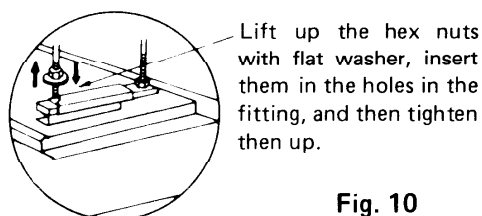

Fig. 10
f) Install suspension fitting (B) on the unit.
g) Hang the unit on the suspension fitting A. Fig. 10